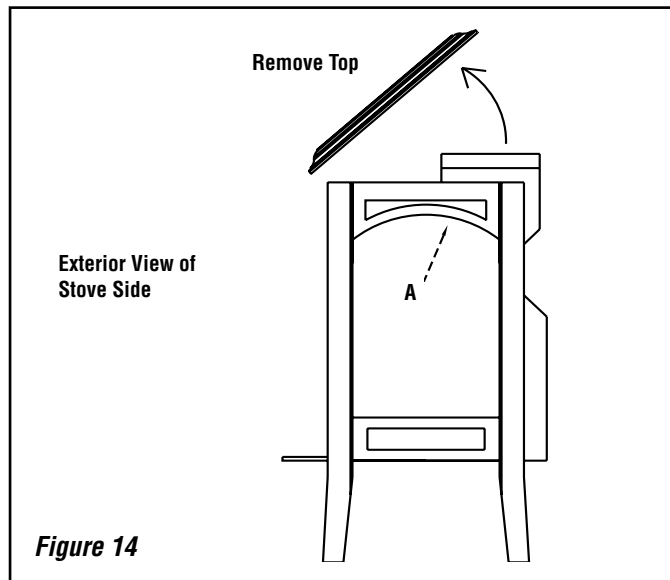
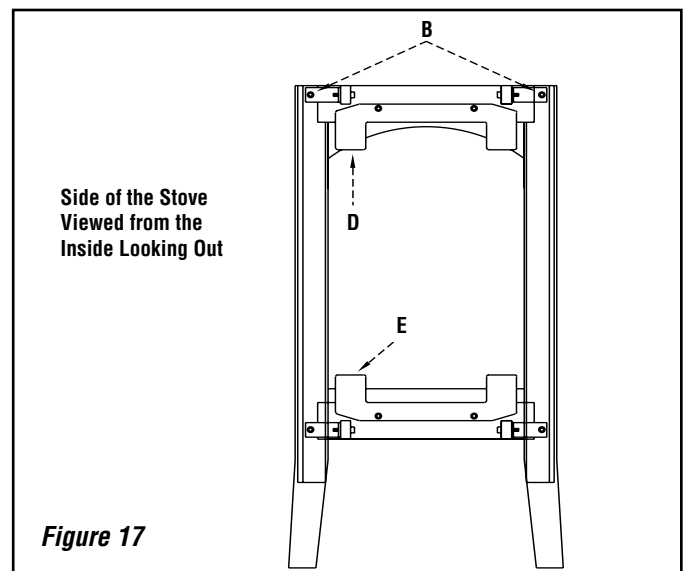

Figure 14
Figure 17
2. Remove the cast iron upper piece A - see **Figure 14**. Complete this step by unscrewing the (2) 5/32 hex-head screws labeled B in **Figure 17**. Lift out the upper cast piece A with the retaining bracket D attached.